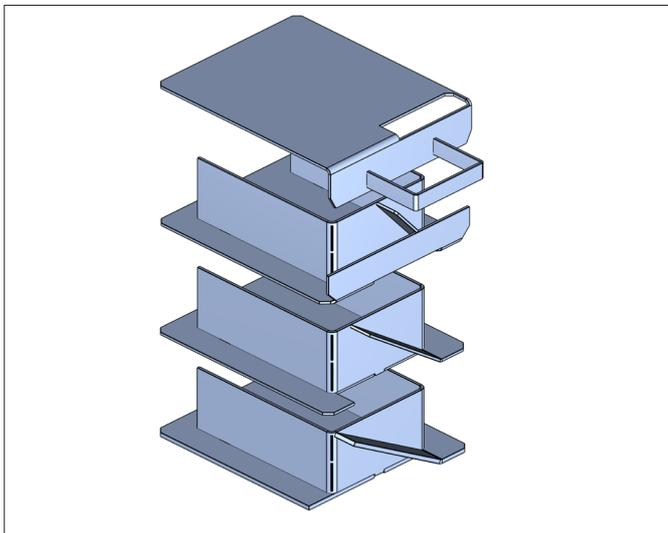
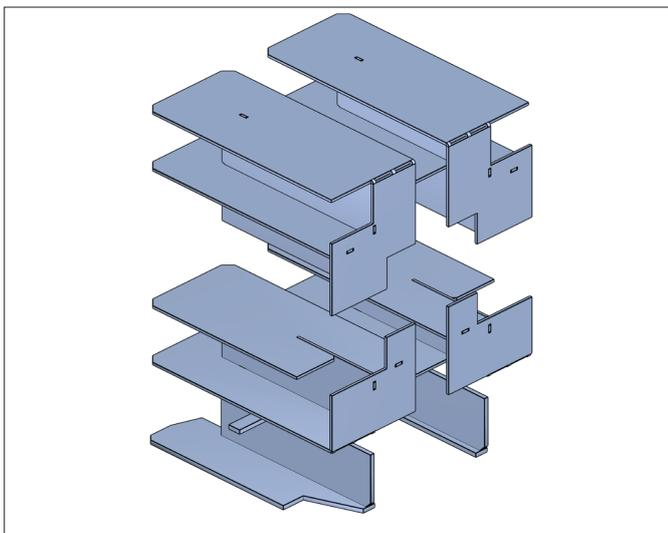
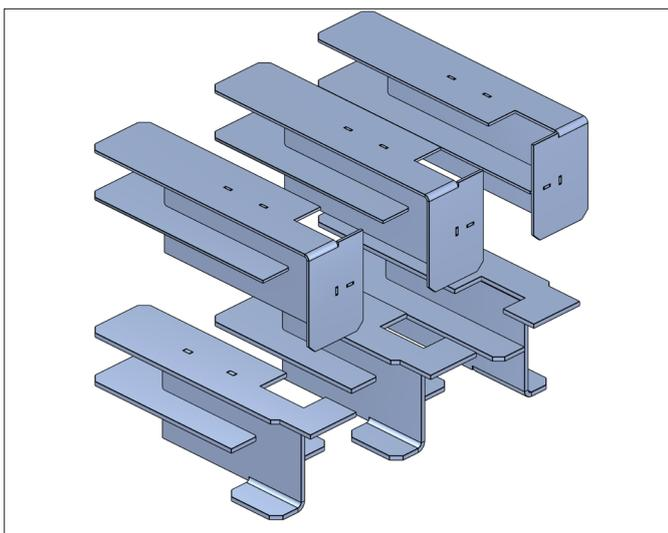
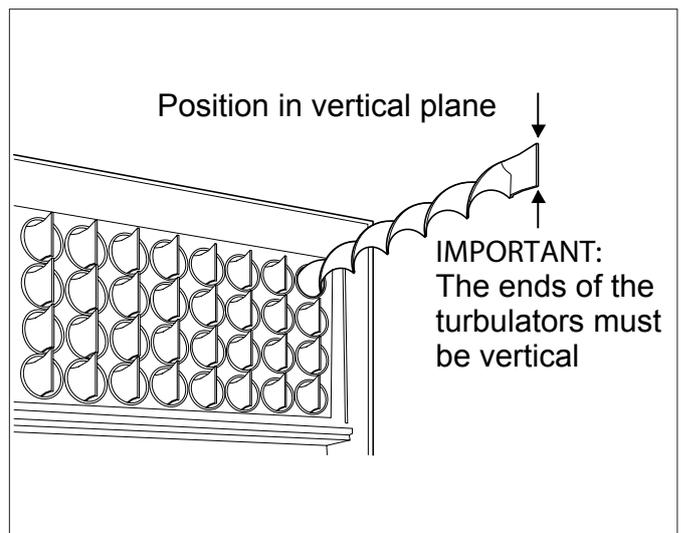

Figure 11-1: Baffles (15/21 models) Product code: BF01
Figure 11-2: Baffles (15/26 models) Product code: BF02
Figure 11-3: Baffles (26/36 and 36/46 models) Product code: BF03
Figure 11-6: Turbulators Product codes:
2. Remove the baffles as shown in Figure 11-1, Figure 11-2 and Figure 11-3.
6. Replace the baffles, ensuring they are correctly fitted. Refer to Figures 11-1 to 11-5, as appropriate. Pull out the spiral turbulators from the heat exchanger tubes. See Figure 11-6.